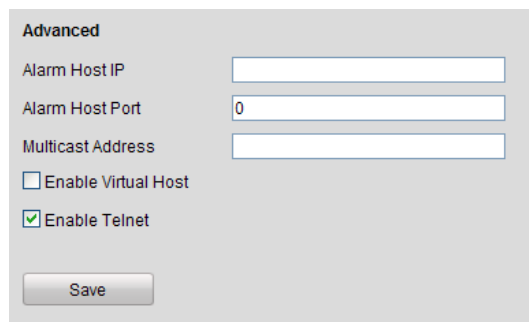

Figure 9. 33 Advanced Settings Interface
4. Enter the IP camera management interface of NVR. The Connect column appears on the right-most side of the camera list, as shown in the Figure 9. 34.